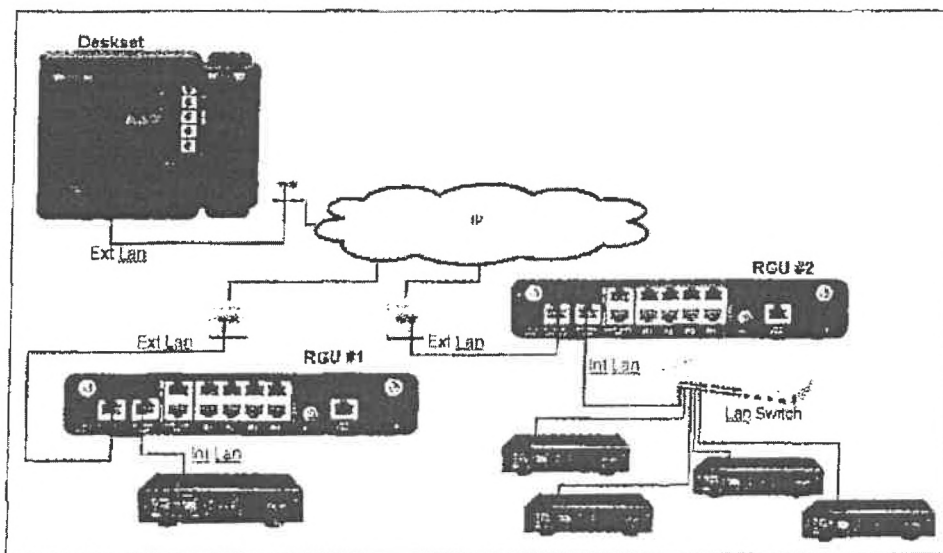

Figure 1-3: MCD 5000 Deskset Connections to Console
The system will include three (3) MCD 5000 Digital Desktop Controllers (also known as desksets), which enable remote control of a Dual Band UHF/7-800MHz APX 7500 Console. A more detailed diagram showing the deskset connections to the APX 7500 Console is shown in Figure 1-3.